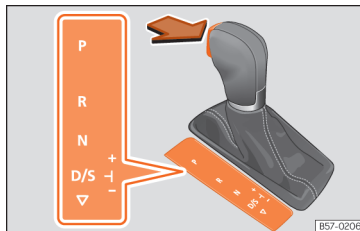

Fig. 247 Selector lever lock.
- Press the brake pedal *and*, at the same time, hold the lock button in the direction of the arrow »» **Fig. 247**.